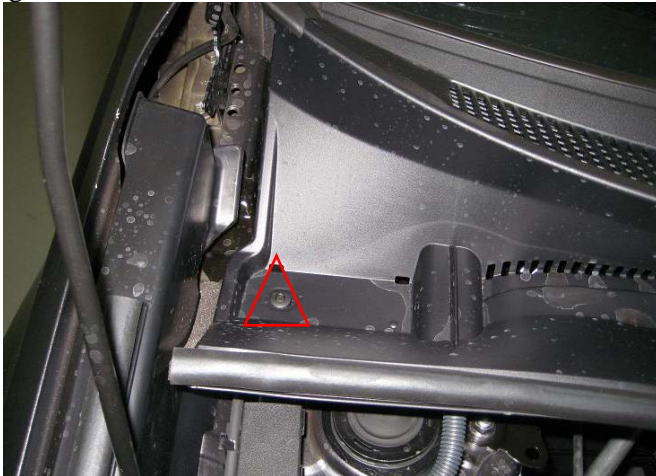

Figure 1-4
- a) Locate plastic push pin on each side of the vehicle and remove (Figures 1-4 and 1-5).